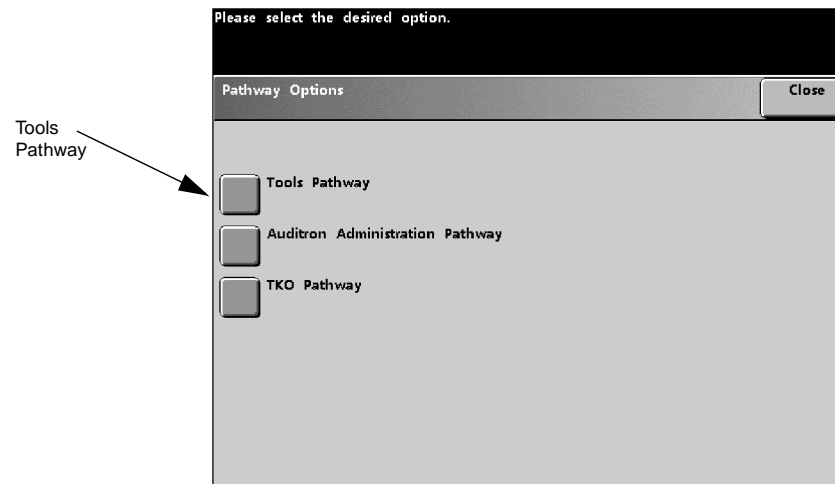

Figure 6-53 The Pathway Options
1. Use the **Access** button to activate the pathway options. After entering the password correctly the **Tools Pathway** window will display, as shown in Figure 6-53.
2. Click the **Tools Pathway** option, as shown in Figure 6-53.